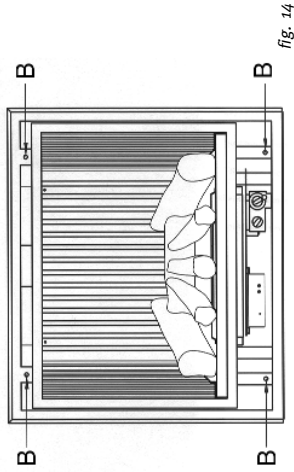

fig. 14
2. Remove the back panel by loosening the 4 screws B (see fig. 14).